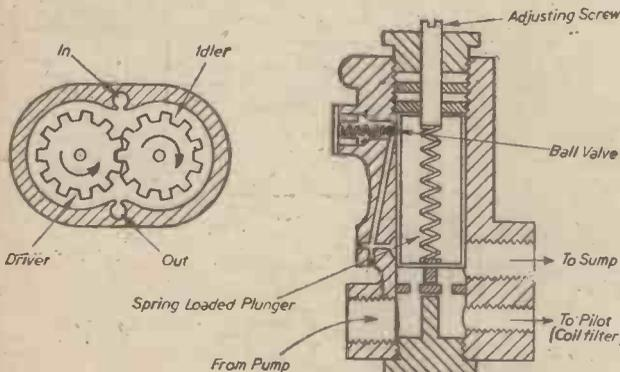

Fig. 30.—Detail of rotary oil pump.
**The Oil Pump (Fig. 30).**—The purpose of this pump is to supply the system with oil, under pressure. This represents a light alloy casting lined with phosphor bronze, in which are two gears meshing with each other. One gear is an idler gear, the other the driver gear. The driver gear is con-